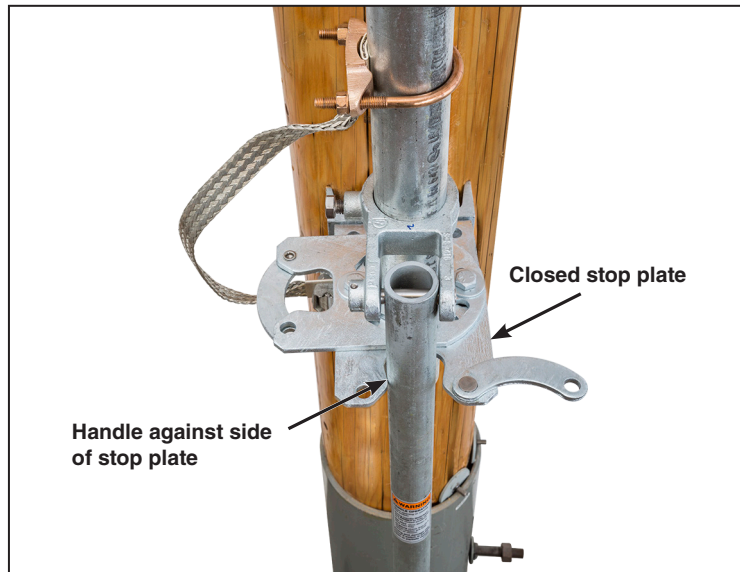

Figure 36. Adjust the Closed-position stop plate.
- (b) The stop plate holes are slotted to allow room for adjustment. Position the operating handle in the stop plate and turn the operating handle as far as it will go in the **Closed** position. (Counterclockwise is standard on switches using the rotating operating mechanism.) The handle should be tight against the edge of the stop plate. See Figure 36. Mark the position of the closed stop plate. See Figure 37 (left).